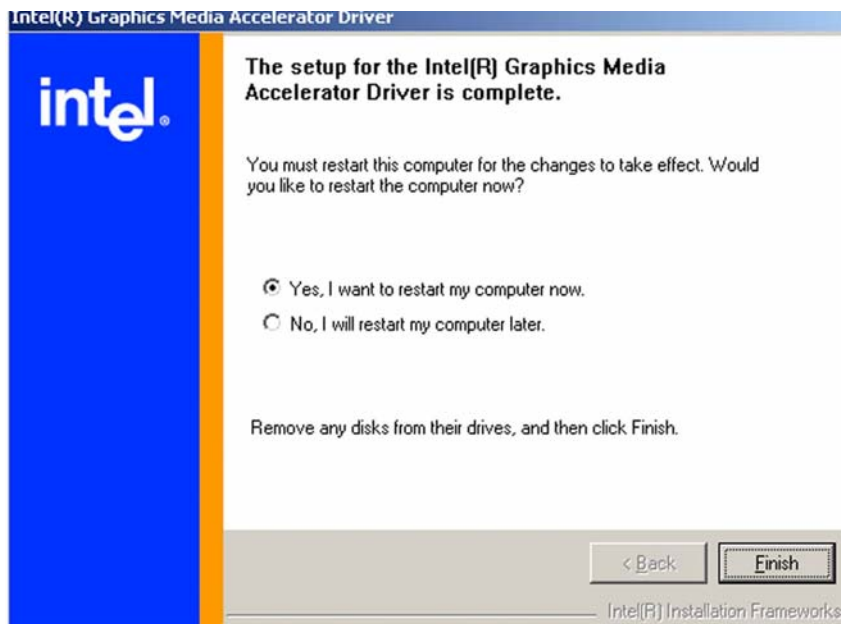

Figure 6-11: VGA Driver Installation Complete
Step 8: After the driver installation process is complete, a confirmation screen shown in **Figure 6-11** appears.
Step 9: The confirmation screen shown in **Figure 6-11** allows user to restart the computer immediately after the installation is complete or to restart the computer later. For the settings to take effect the computer must be restarted. Once decided when to restart the computer, click the “**FINISH**” button.